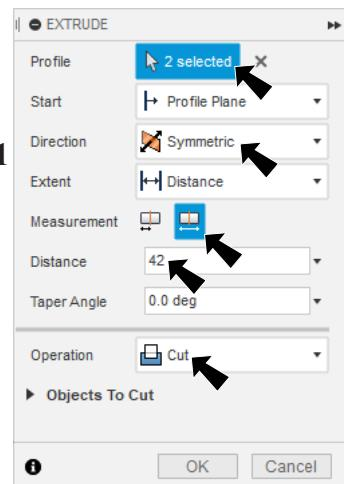

Fig. 20
Step 9. In the Extrude panel set, Fig. 20